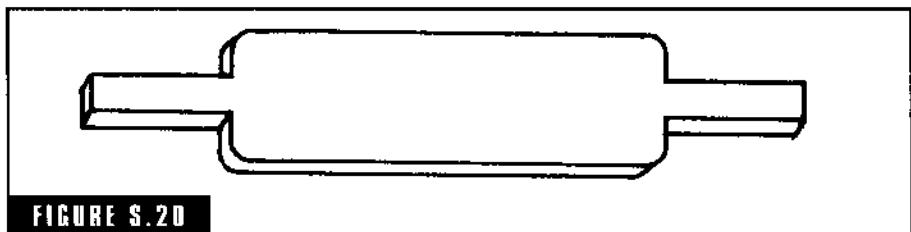

FIGURE S.20
**strike-off bar** Each time a mold is rammed up the sand must be struck off level with the flask cope and drag (Fig. S-20). The bar simply consists of a metal or hardwood straightedge of sufficient length.